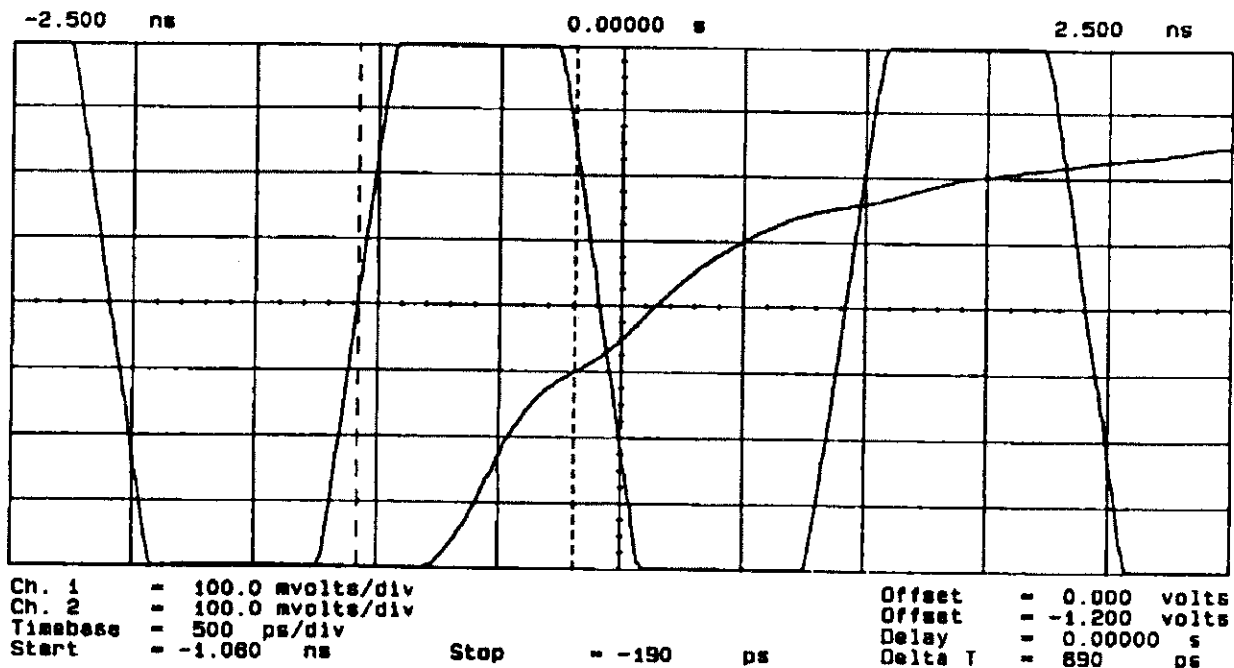

Figure 3-8. Oscilloscope Display of CI1 and CLKA
1. The 54100A Oscilloscope displays the 500 MHz reference frequency (CLK A) on input channel 1, and the CI1 leading edge on input channel channel 2. The oscilloscope requires a few minutes to display the waveforms, which should eventually be similar to *Figure 3-8*.
14. The 54100A Oscilloscope should again display the CI1 and 500 MHz reference frequency (CLK A) signals as shown in *Figure 3-8*. Return to Step 2. Repeat this process until the measured time delay is within the limits listed in *Table 3-5*.